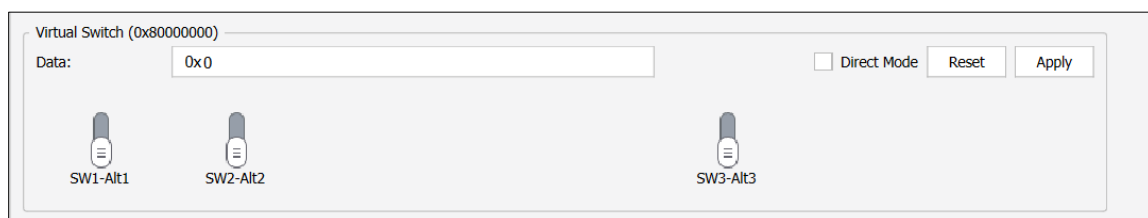

Figure 3.3. Three Virtual Switches
- **Reveal Analyzer/Controller:** Reveal Analyzer is used to determine which alternate pattern is running on the device. Reveal Controller is used to implement three virtual switches (Figure 3.3). You can load the desired alternate pattern by toggling the virtual switch. Refer to the following for more details.